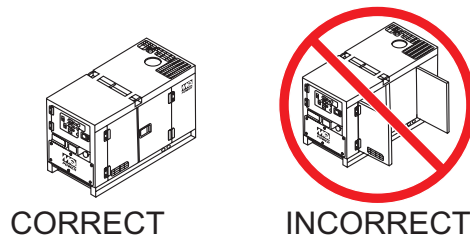

Figure 50. Engine Enclosure Doors
5. Close all engine enclosure doors (Figure 50).